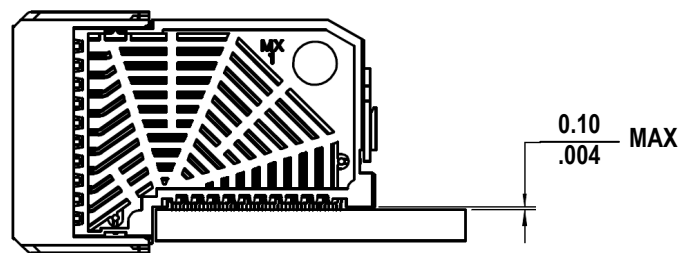

Figure 3
3. Using the application tool and an appropriate press, seat the module until there is less than 0.10mm (.004 in) clearance between the bottom of the plastic housing and the surface of the PCB. See Figure 3.